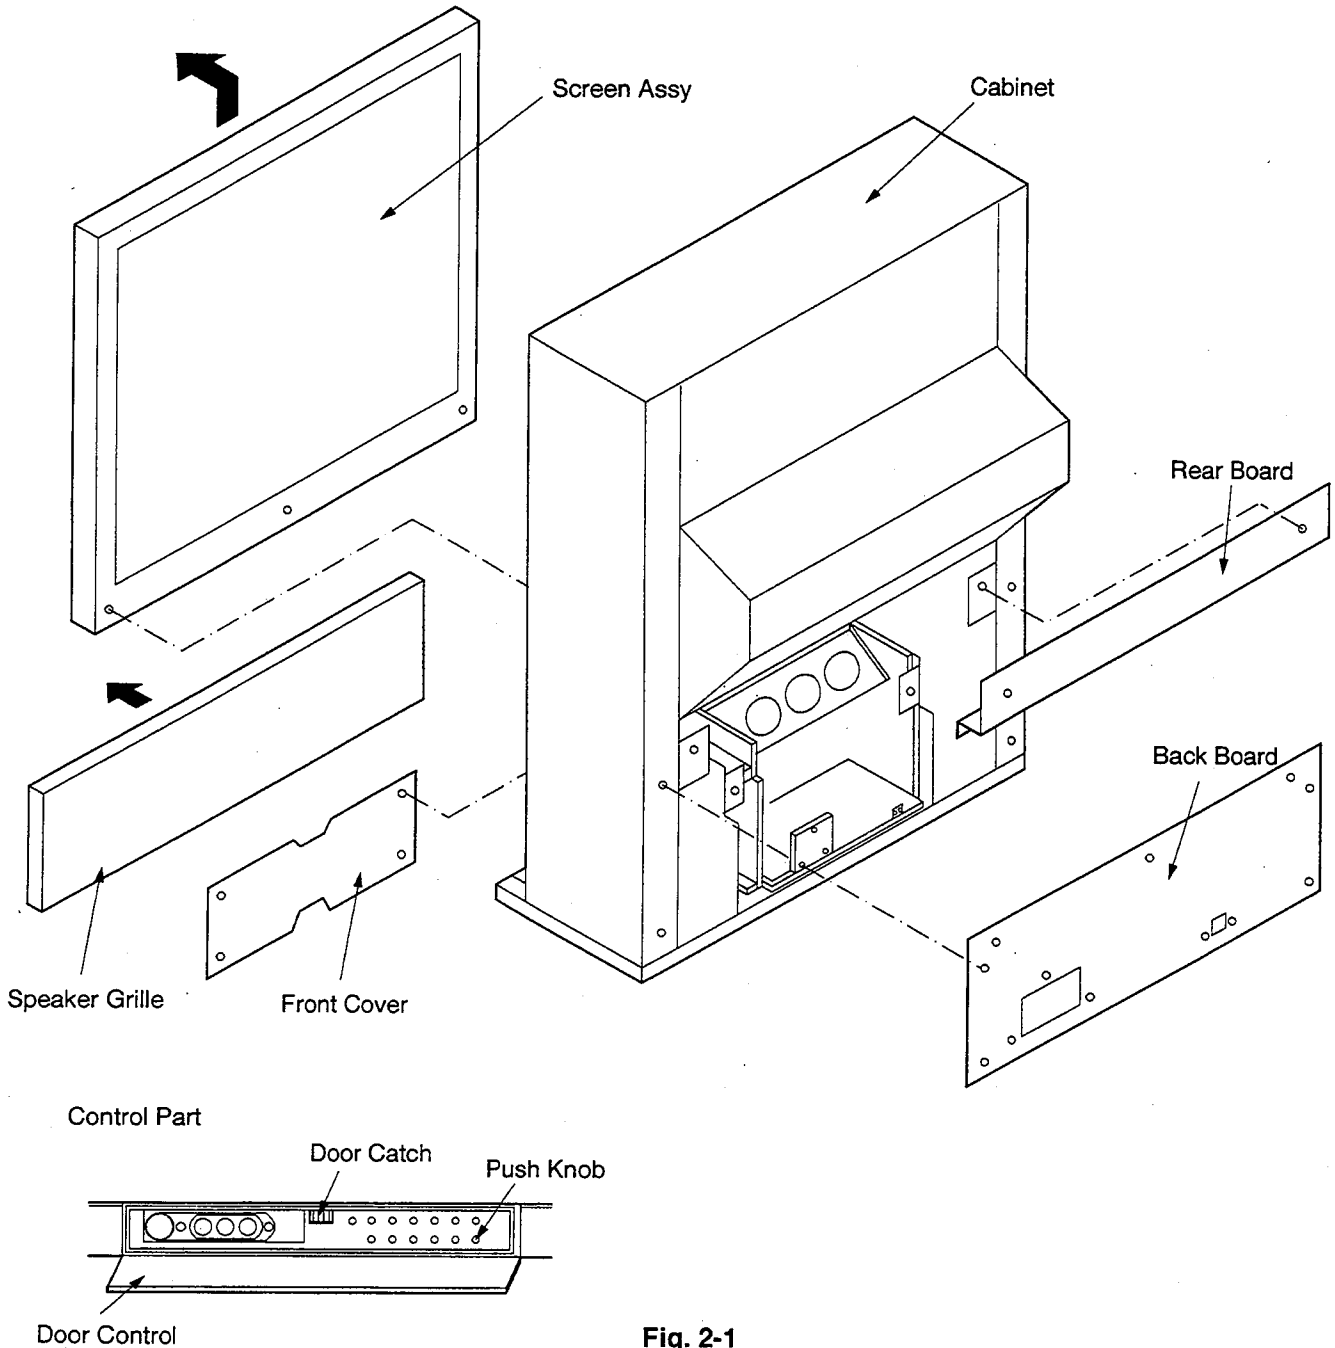

Fig. 2-1
1. Remove the Screen Assy. [Fig. 2-1]